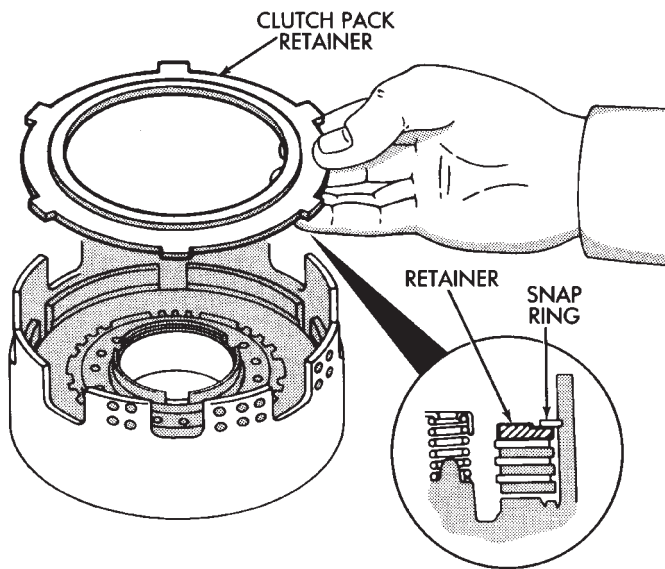

Fig. 12 Install Clutch Pack Retainer
- (5) Install clutch pack retainer in drum (Fig. 12).
- (6) Install clutch pack snap ring (Fig. 12).
(7) Check snap ring position. If necessary, shift snap ring until end gap is **not** aligned with any notches in clutch drum (Fig. 12).
(8) Check clutch piston stroke length a second time. If length is OK, continue with assembly. If stroke length is incorrect, replace clutch discs or use different thickness clutch pack retainer (Fig. 12). See Specifications section for retainer thicknesses.